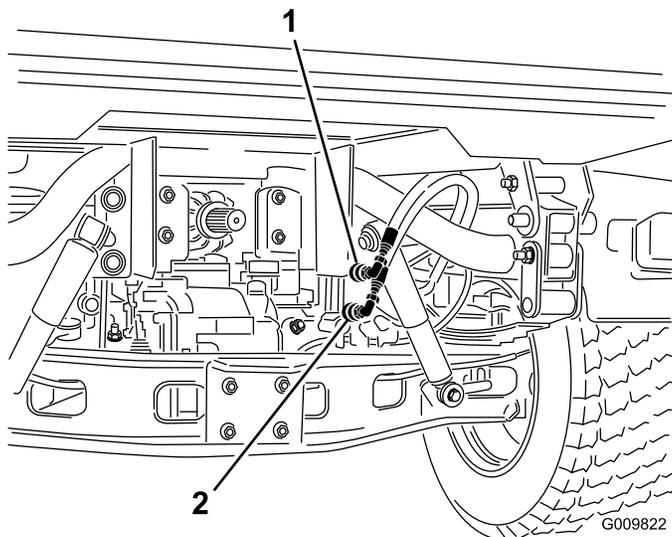

Figure 80
2. On both vehicles, disconnect the two quick coupler hoses from the hoses secured to the coupler bracket (Figure 80).